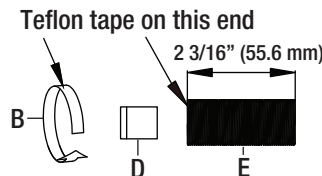

Fig. 12
- Put teflon tape (B) on the end of the long brass connector (E) that has the white check valve (D), see Fig. 12.
- Make sure that the rubber washers (N), (U) are properly installed to prevent leaks.
- Make sure that you drill holes according to the instructions and that you secure the shower column (S) with the double-sided tape or on the bottom bracket.
- If you find that water pressure or volume is low, clean the mesh gasket (C).
- If there is no water flow, check the brass connector (E) to make sure that it has not been installed incorrectly. Refer to Fig. 12 & 13 (on page 7) of the installation guide.
- If the check valve (D) is installed correctly and there is still no water flow, take the shower column (S) off the wall, loosen the L-fitting (L) and check that the restrictor (K) is not blocked by debris. Take the restrictor off, clean with water and reinstall.